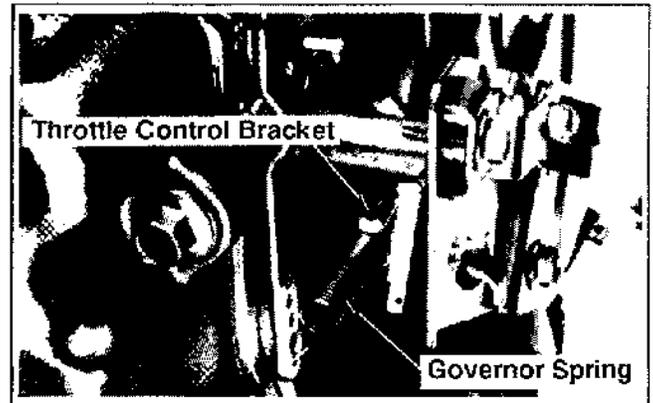

Figure 9-16. Removing Governor Spring.
2. Remove governor lever spring from throttle control bracket. See Figure 9-16.